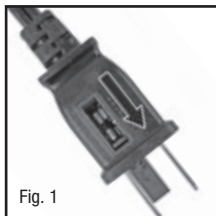

Fig. 1
- Slide fuse cover, located on the top of the plug, towards the prongs of the plug. (Fig. 1)